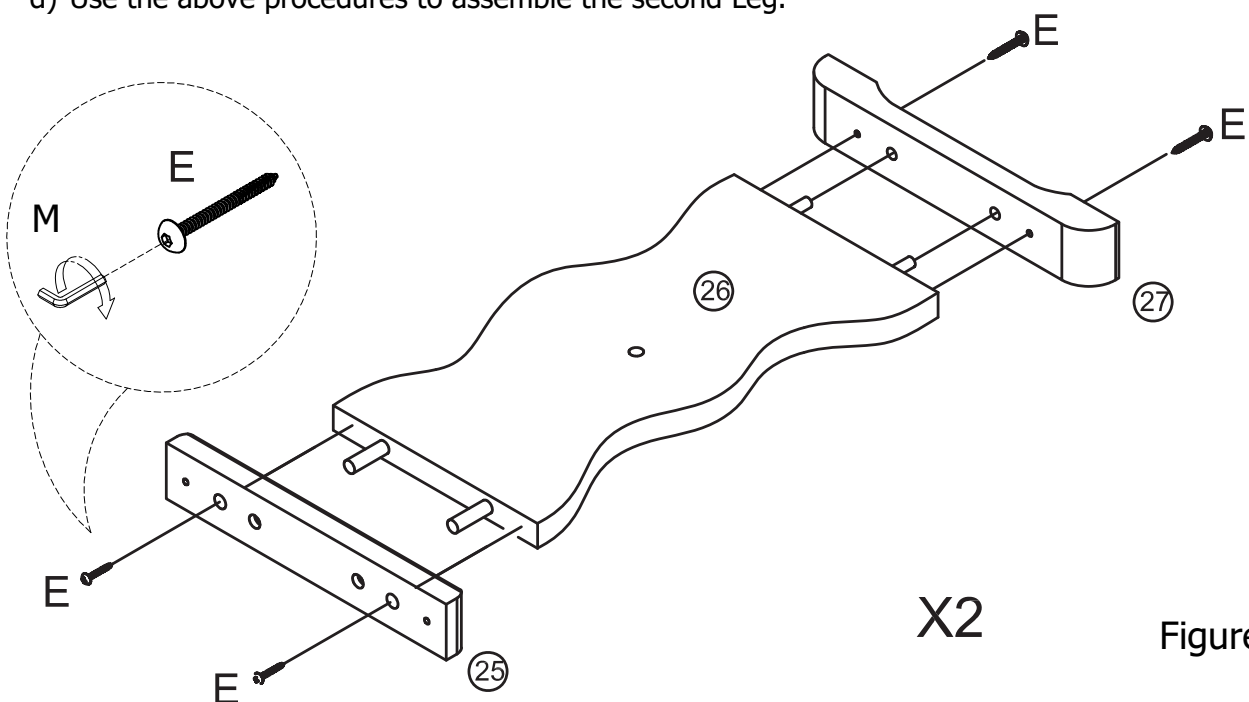

Figure 2
- Attach Seat Top Support (25) and Leg Base (27) to Leg (26) completed in STEP 1 via wood dowels as shown in Figure 2.